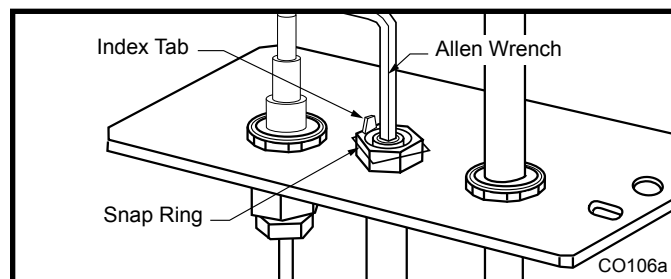

Figure 79 Remove pilot orifice.
4. Remove pilot orifice with Allen wrench. (Figure 79)